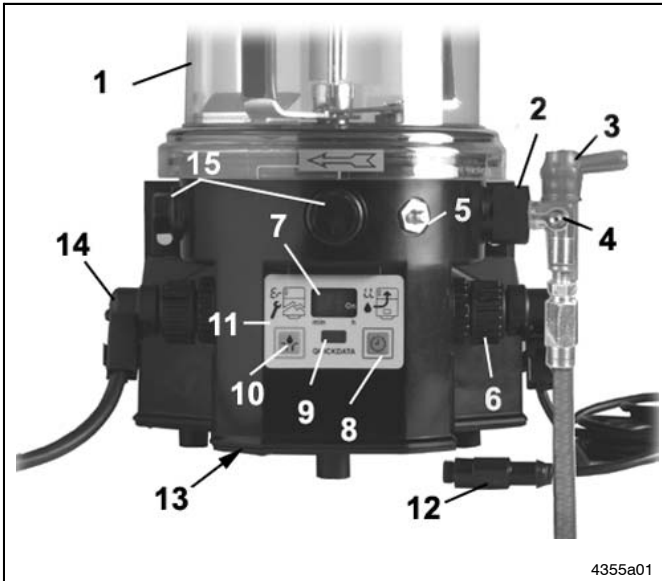

Fig. 2 Components of pump 223, 233
- The control unit is installed in the housing of the pump behind the membrane keypad (see pos. 11, fig. 2) as an integrated p.c.b. MF00.
- The control unit is installed in the housing of the pump behind the membrane keypad (see pos. 11, fig. 2, page 9) as an integrated p.c.b. MDF00.
- membrane keypad with display (pos. 3, fig. 2)